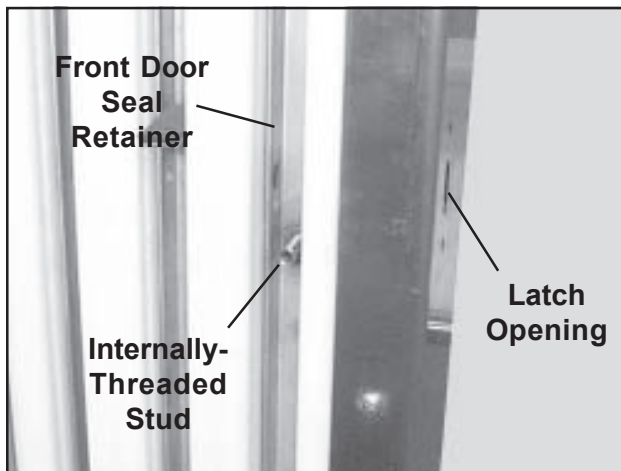

Figure 47. Stud for Spring
1. Place the spring (**E**) onto the internally-threaded stud on the front door seal retainer (Figure 47).
2. Mount the front cover (**B**) to the column over the latch opening (Figures 47 and 48) with the two #10-24 Phillips screws (**F**) and flat washers (**G**). Leave the screws only finger-tight for now.